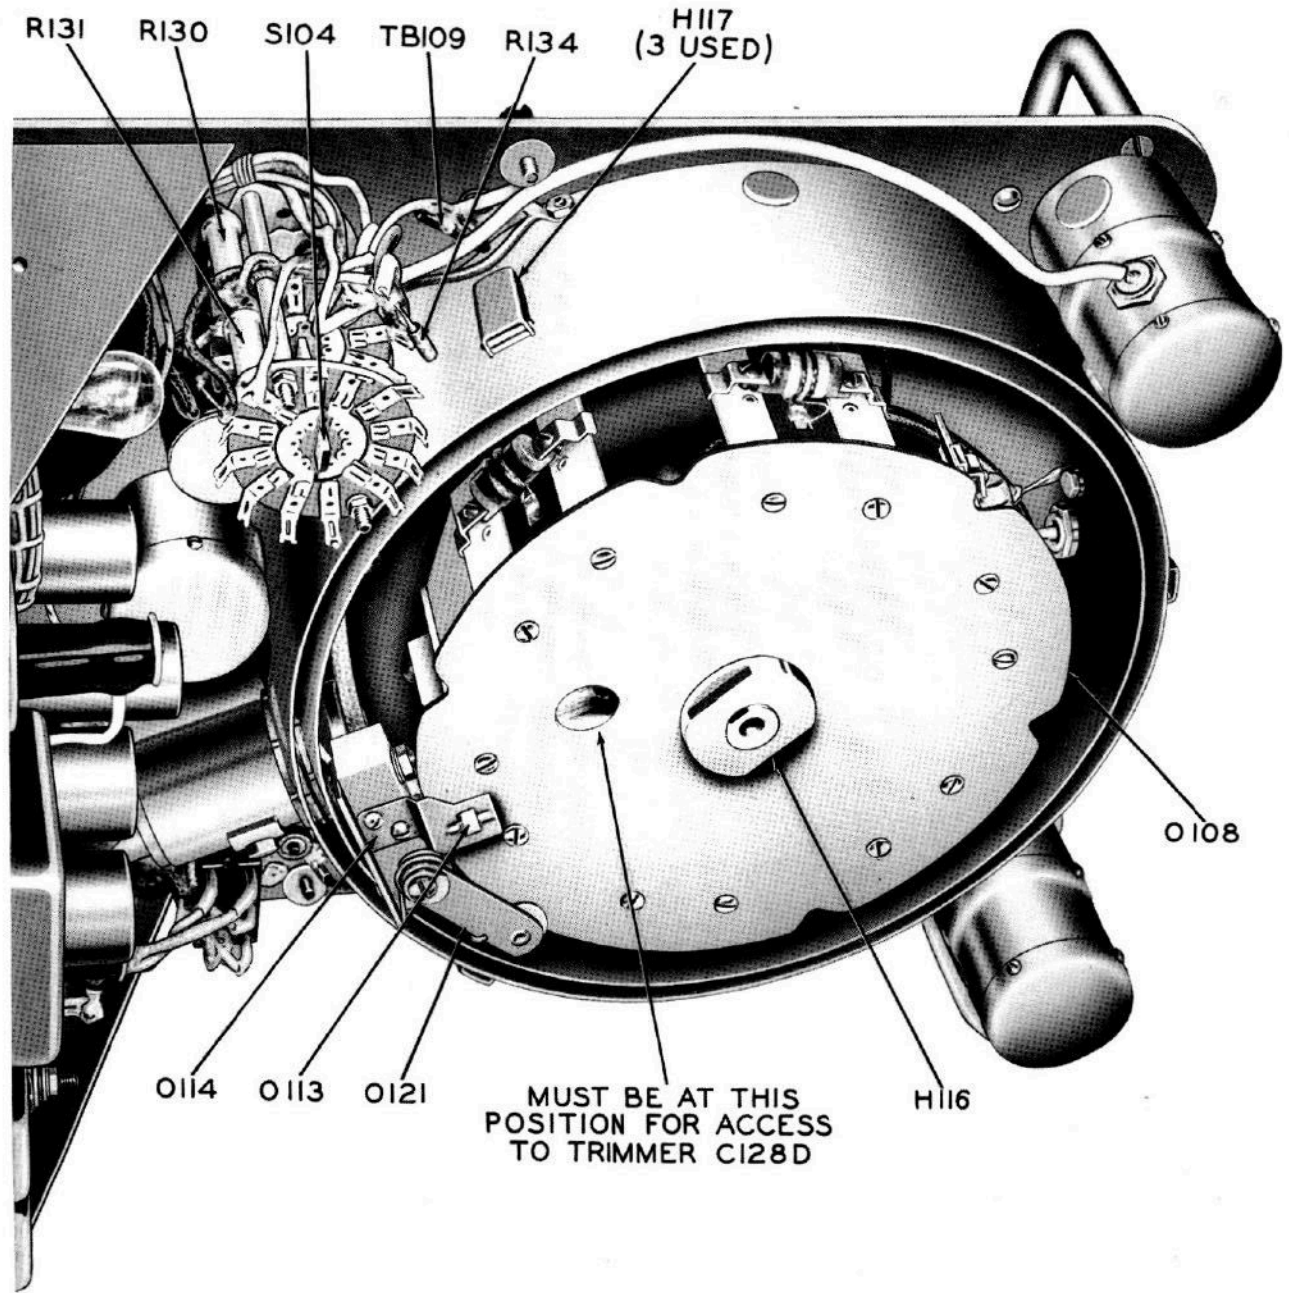
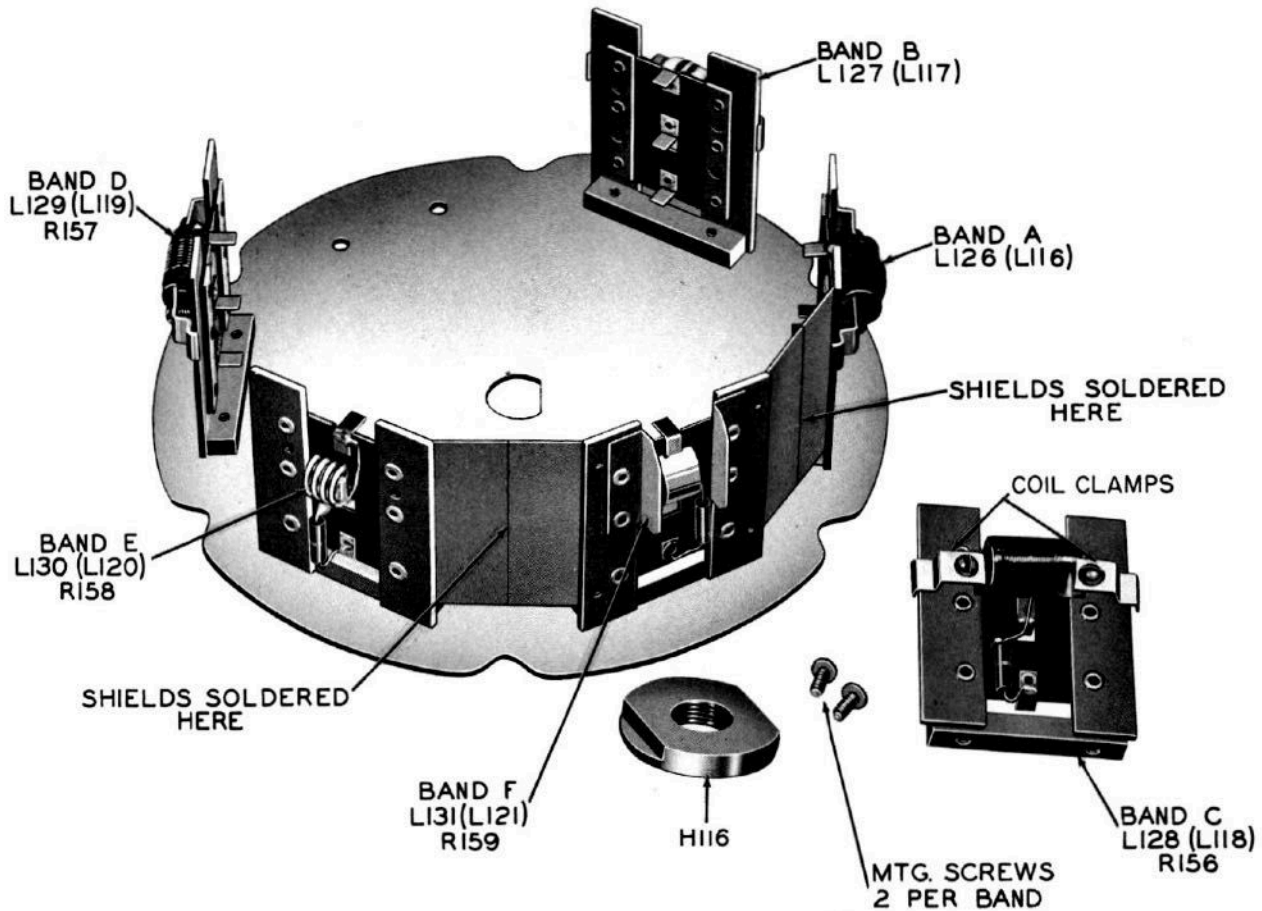

Figure 7-10. RF Signal Generator SG-45A/URM-26, Oscillator Compartment, Interior
Figure 7-11. RF Signal Generator SG-45A/URM-26, Coil Disc Assembly
(1) Remove instrument from case (see paragraph 7-1e).
(2) Unfasten three spring latches that hold outer oscillator shield in place, then remove both outer and inner shields.
(3) Check each 10-megacycle calibration point between 200 and 400 megacycles, as previously described in paragraph *b* above, to determine the direction of the frequency error (above or below the scale calibration).
(4) When the zero beat corresponding to the 400-megacycle calibration is obtained, note relative position of index line and calibration. If the frequency reading is high, circuit capacitance must be reduced and vice versa.
(5) Access to a small trimmer capacitor, C-128D, is provided by the small hole in the coil disc, when "F" band is connected, see figure 7-10. Insert a 1/4 inch socket wrench and adjust trimmer capacitor to zero beat while slowly rotating tuning dial until 400-megacycle calibration is correct. Clockwise rotation of trimmer increases capacitance.
(2) Unfasten three latches that hold outer shield and remove both outer and inner shield covers (see figure 7-10).
(3) Remove two screws holding Spring O-114 and Roller O-113. Be careful not to lose roller as roller shaft is not attached permanently to the Spring.
(4) Turn coil mounting disc to position midway between detents and, while holding disc firmly in this position, remove the one-inch nut H-116 which holds disc. Push detent away and lift coil mounting disc straight out.
(5) Remove two screws holding the oscillator sub-assembly to be removed (see figure 7-11). If sub-assembly for band A, band E, or band F is to be removed, it is also necessary to unsolder the shield where it is attached to the neighboring sub-assembly.
COILS FOR RANGES A THROUGH D ARE HELD IN POSITION BY CLAMPS AT EACH END OF COIL FORM (SEE FIGURE 7-11). CARE MUST BE TAKEN NOT TO LOOSEN THESE CLAMPS WHEN MAKING REPAIRS AS THE POSITION OF THE COIL RELATIVE TO PICK-UP LOOPS L-114 AND L-115 WILL BE CHANGED AND ITS CALIBRATION DESTROYED.
(*a*) **OUTPUT VOLTAGE LESS THAN .05 VOLT:** Loosen screws holding coil-form clamp (figure 7-11), then move coil slightly towards front panel.
(*d*) **OUTPUT VOLTAGE MORE THAN .05 VOLT:** Loosen screws holding coil-form clamps (figure 7-11) then move coil slightly towards coil disc.
(2) Unfasten three spring latches that hold outer shield and remove both outer and inner shields.
(3) Remove coil mounting disc (see figure 7-10 and paragraphs 7-8a(4), 7-8a(5), and 7-8a(6)).
(4) Remove plug buttons adjacent to each end coil and unsolder coil connection at each end.
(5) Remove the three mounting screws.
(6) The three coils may now be removed and the defective coil replaced. Keep lead lengths same as in original assembly.
(7) Replace the coils as in their original position.
(8) Solder free leads of first and last coils and replace plug buttons.
(9) Remount coil mounting disc, replace oscillator shield covers, and restore instrument to case.